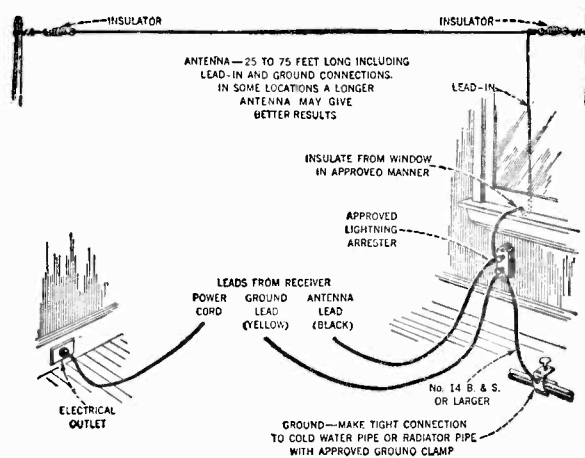

Figure 1
**External Connections**—Figure 1 shows the external connections and recommended antenna system. It is essential that a good ground connection be provided. Make connections to the antenna and ground as illustrated. Then connect